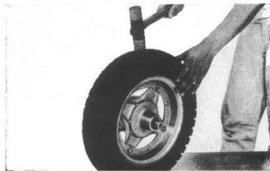

Fig. 80
- (1) After reassembling the tire, fill it with air to about 1/3 of the specified pressure. Tap the tire all around with a soft hammer to eliminate any tube twisting or pinching. (Fig. 80)